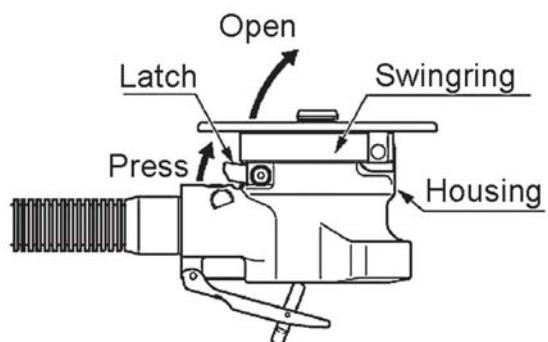

Fig.6
(2) How to replace the Indexable Inserts
- a. Pressing the Latch unlocks the Swingring and the Swingring opens in the direction of the arrow. (Fig.6)